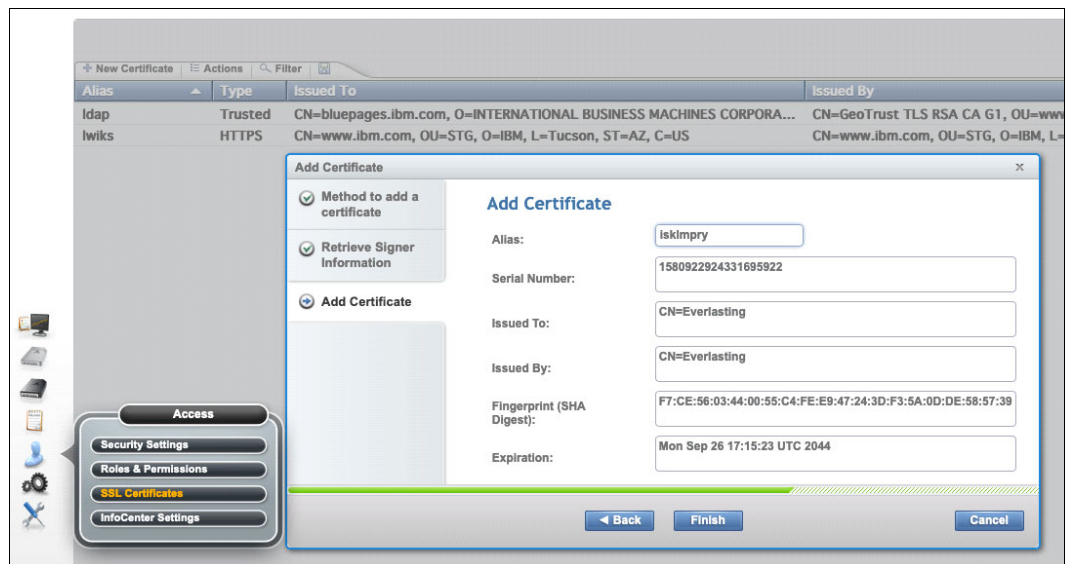

Figure J-10 Choosing an Alias for retrieved certificate
4. If the connection to the server succeeds by using the provided information, the certificate is retrieved. Next, define an Alias to help you identify the retrieved certificate (see Figure J-10) into the TS7700 truststore. Click **Finish** to complete the process.